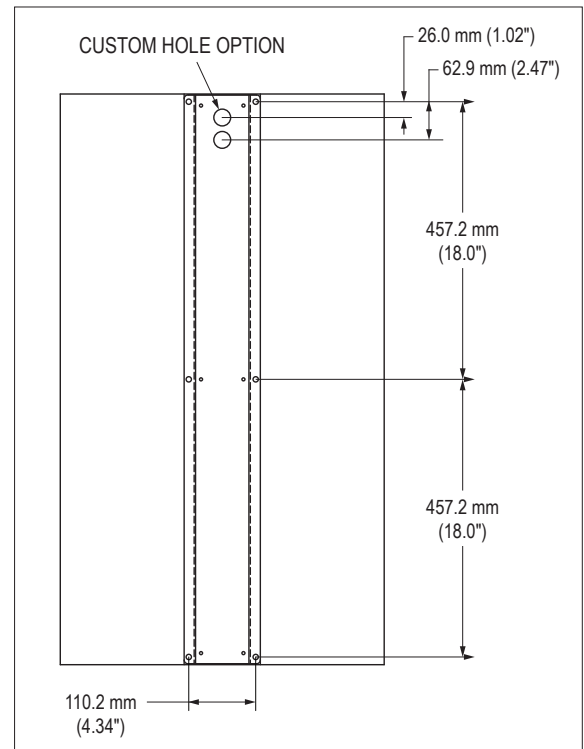

FIGURE 3 – REAR VIEW WITH OPTIONAL WB-ENCL-XXX WALL MOUNTING BRACKET
- c. When mounting to a wall (WITH optional WB-ENCL2-xxx bracket): First mount the bracket to the wall using the hole pattern shown in Figure 3. Then mount the enclosure to the bracket using the provided six 1/4-20 fasteners. Finally, route power and signal cables through the cable entry into the enclosure.